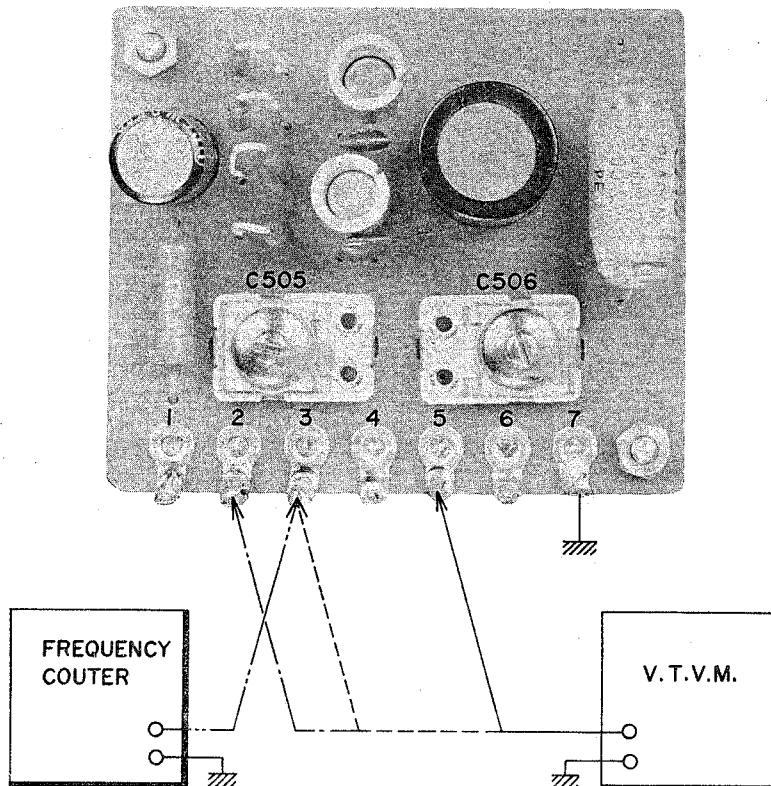

Fig. 13
3. RECORDING BIAS FREQUENCY ADJUSTMENT (See Fig. 13)
- b. Connect a Frequency counter to point (3) in Fig. 13 of the oscillator P.C. Board (LF-5210) and read the frequency indication.
4. RECORDING BIAS VOLTAGE ADJUSTMENT (FREQUENCY RESPONSE ADJUSTMENT) (See Fig. 13)
- b. Connect a V.T.V.M. to points (6) in Fig. 13 of the oscillator P.C. Board (LF-5210) and read the V.T.V.M. indication.